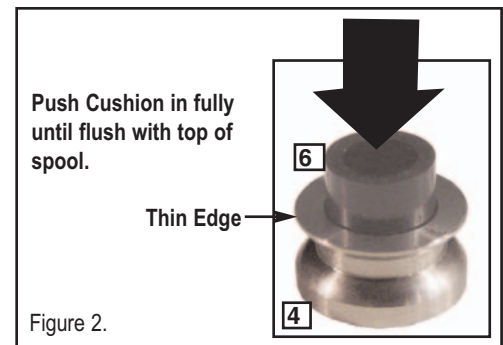

Figure 2.
1. Insert a Cushion into the side of each Upper Spool as shown in figure 2.